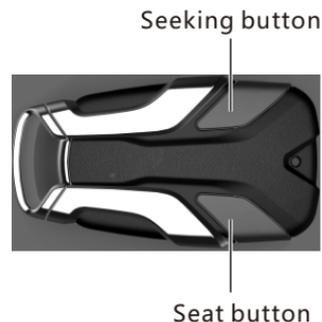

Figure 1
- The adjusting screw is at the lower rear of headlight, please align the adjusting hole of figure 1 by cross screwdriver.